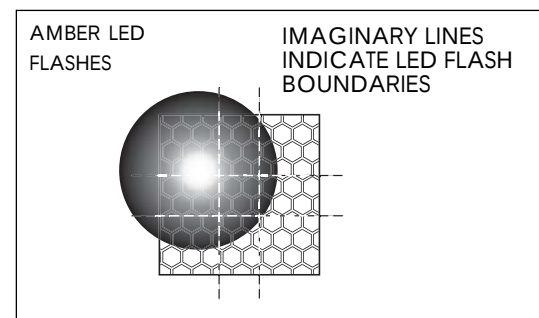

Fig 18
Turn one of the thumbwheels until one of the LEDs starts flashing. It does not matter whether you pan or tilt first or which way you turn the thumbwheel (**Figs 18 to 20** assume that panning is carried out first).
3. If the amber LED illuminates, turn the thumbwheel the other way until either the red LED starts to flash (beam now close to centre) or neither LED flashes (beam is in the centre). Keep turning until the amber LED flashes then stop turning (**Fig 18**). Go to step 5.
4. If the red LED flashes, wait until it stops and then turn a few steps more in the same direction. If the red LED flashes between steps, wait until it stops. Keep turning until the amber LED flashes then stop turning (**Fig 18**). Go to step 5.